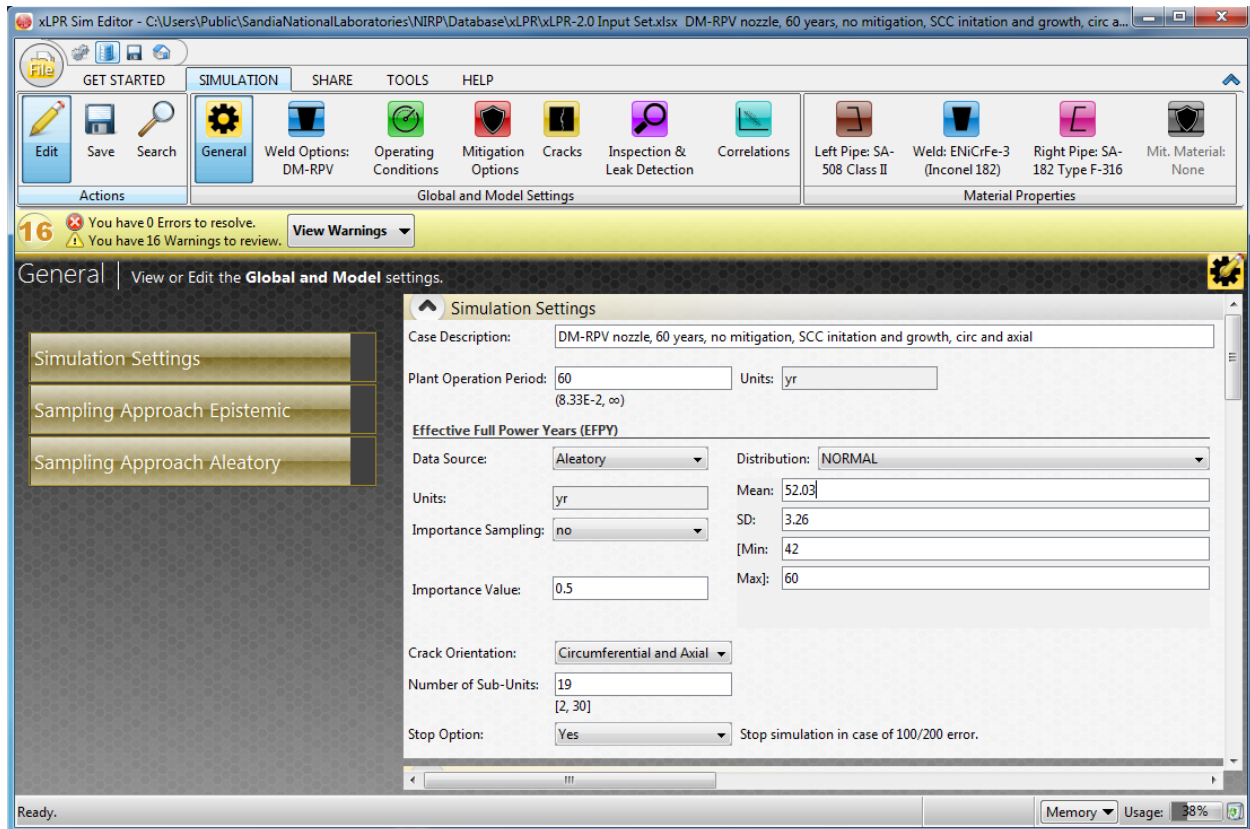

Figure 7. Simulation settings.
- Top border that displays the path and file name of Input Set (see Figure 7)
- Information field below the ribbon for warnings and errors (see Figure 7)
Errors and warnings are tallied by the Sim Editor at the yellow banner beneath the button ribbon. They are viewed by clicking the View button in the banner (e.g., Figure 7). Symbols indicating errors and warnings also appear in the input panels and input panel buttons.
An example of the Sim Editor display in simulation mode is shown in Figure 7. In simulation mode, the Sim Editor shows
Under the **Simulation** tab, there are three sets of ribbon buttons (Figure 7):
General – The settings under the *General* button are nearly all model settings and options. They are shown in Figure 7. The *General* button panels (•) and inputs (°) include